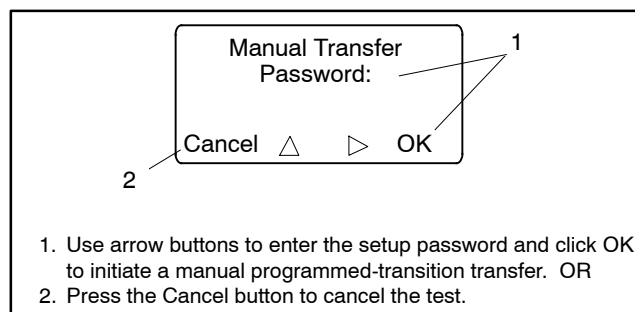

Figure 4-12 Manual Transfer Screen for Programmed-Transition Override
- If the override function is set to manual, the user can either initiate a programmed-transition type transfer (setup password required) or cancel the test sequence. See Figure 4-12. If neither action is taken, the controller will continue to check for synchronization and transfer if the sources synchronize.